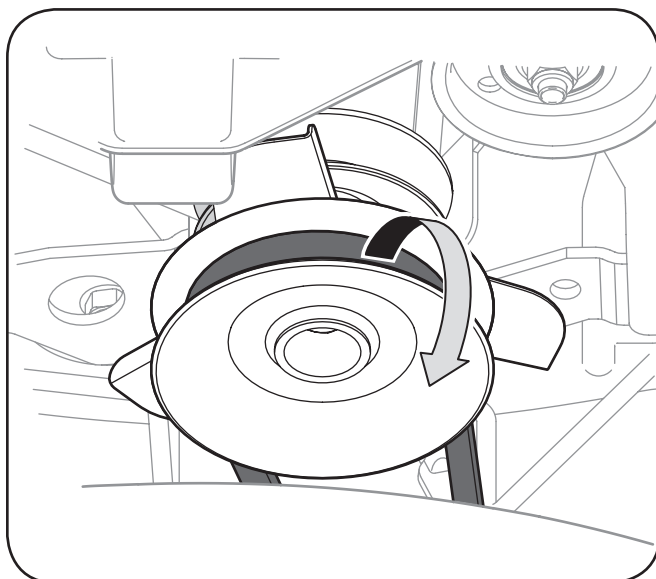

Figure 7-2
4. Remove the belt from around the tractor's PTO pulley. See Figure 7-2.
3. Remove the deck belt from around the unit's PTO drive pulley as shown in Figure 7-2. Simply roll one side of the belt off of the pulley and then work it off the pulley by continuing around the pulley until the belt is off of the pulley.
4. Pull the belt towards the front of the unit, pulling it through and out of the belt keeper rod. See Figure 7-2.
8. Feed the deck belt through the belt keeper rod and work it around and onto the PTO drive pulley as shown in Figure 7-2.